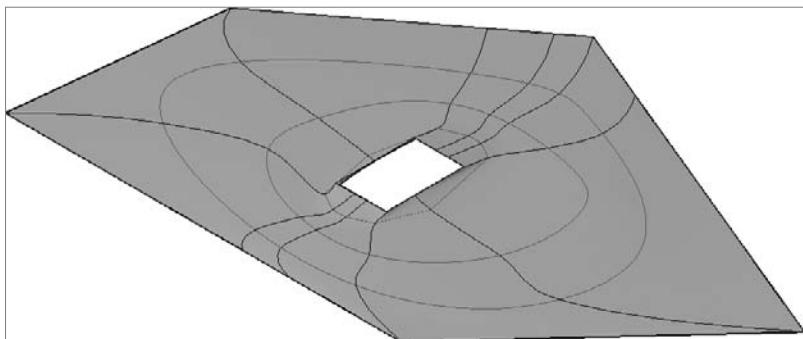

FIGURE 17.6 The completed cabin land
11. Click OK, and then change to the Conceptual visual style. Your cabin land parcel should look similar to Figure 17.6.